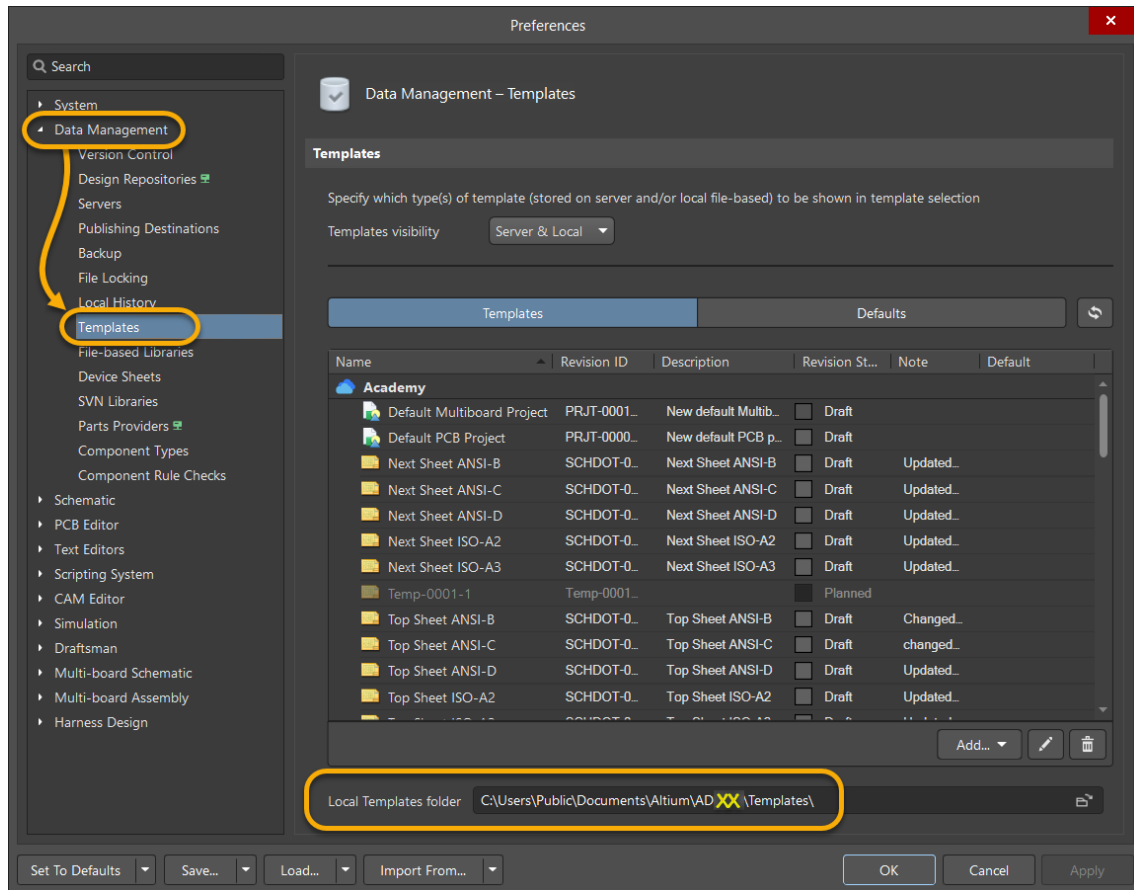

Figure 2. Template file location
- From the *Data Management* section, open the **Templates** page, as shown in Figure 2. This is the location in which Altium Designer shows all of the default templates from the workspace, and local templates added during the installation.